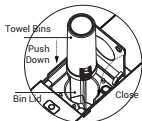

Figure 4
3. (Figure 4) Invert the towel bucket and reinsert it into the bin. Press it down until you hear a "click" sound, indicating the completion of the feeding process. Then close the cover.